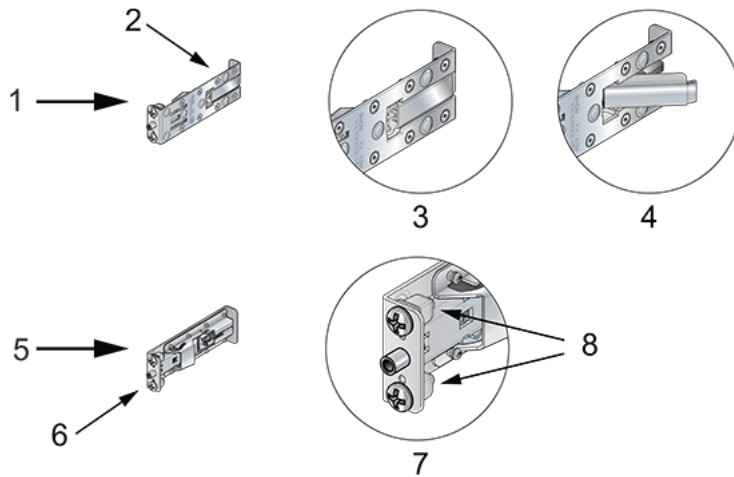

Figure 8: Mounting Ears
Figure 8: Mounting Ears displays the mounting ears, which secure the switch top to the rack. The two mounting ears are identical and installed above each shelf. The inner side of each ear may include a latch to the locking mechanism that secures the ear to the rack.
2. If applicable, close the front locking mechanism latch (Figure 8: Mounting Ears).